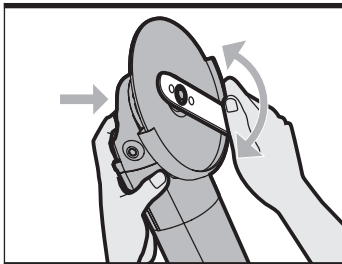

Fig 4
The inner flange (6) is located over the spindle (7) and on the two spindle flats. Locate the disc onto the inner flange and then the outer flange (5) screwed onto the spindle. Press the spindle lock button (4) and rotate the spindle until it locks, then firmly tighten the outer flange using your special spanner to clamp the disc (See Fig 4). The pins on your special spanner locate in the holes on the outer flange. Check the disc rotates freely and is securely clamped. Make no load test run for 20 seconds to check disc vibration and disc run out. To remove a disc, reverse these instructions.